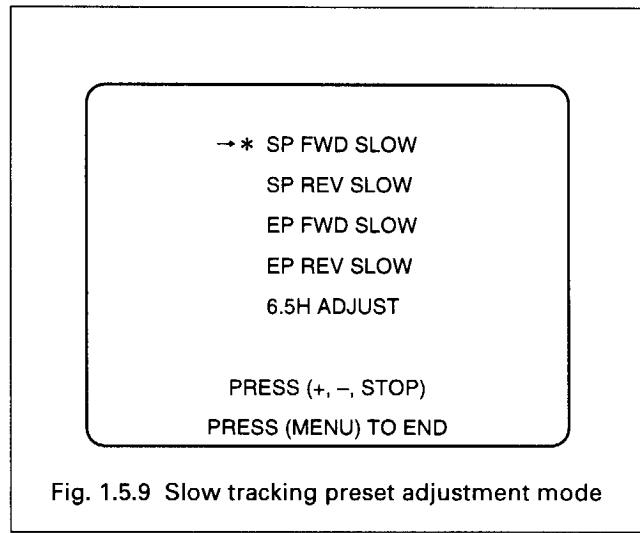

Fig. 1.5.9 Slow tracking preset adjustment mode
5. Press the **SET** button to enter the VTR into the SERVO adjustment mode. (Refer to Fig. 1.5.9.)